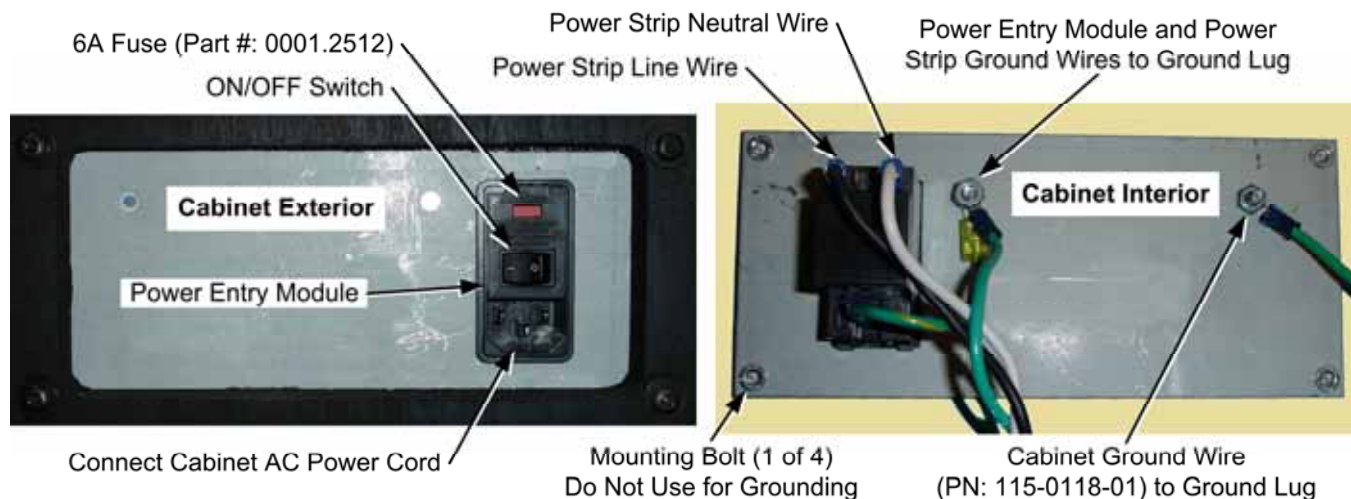

Figure 12. AC Power Plate
Ground wires from system components must be securely connected to the ground lug on the power plate, as shown in Figure 12. Components must **not** be grounded to the power plate mounting bolts.
3. Disconnect the power strip from the AC power plate terminals (see Figure 12).